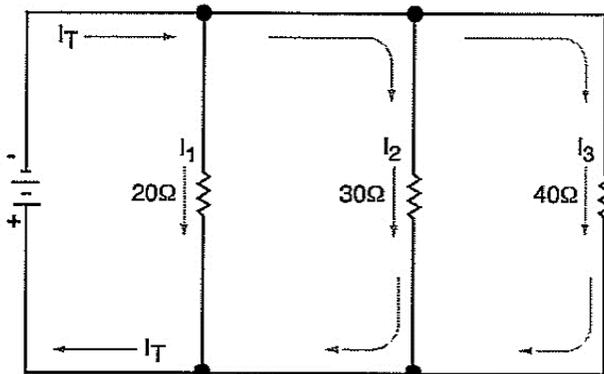

Figure 8.8: Sample Parallel Circuit
- 8-43 Suppose you have a three-branch parallel circuit like the sample shown in Figure 8.8. The resistance in each branch differs from the resistance in the other two branches. What is the resistance of the circuit as a whole?
- 8-51 You can see how this equation works by using it on the example in Figure 8.8. When you substitute the three resistance values into the equation, you get the results shown below.